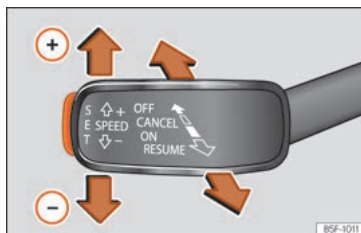

Fig. 54 On the left of the steering column: third lever to operate the CCS.
- Switching on the CCS: move the third lever to **ON** » **Fig. 54**. The system switches on but it does not control the speed as no speed has been programmed.
- Activating the CCS: press the button **SET** » **Fig. 54**. It memorises and maintains the current speed.
- Temporarily switching off the CCS: move the lever to **CANCEL** >>> Fig. 54 and release it or press the brake pedal. The cruise control system is switched off temporarily.
- Reactivating the CCS: move the lever to **RESUME** >>> Fig. 54 and release it. The memorised speed is saved and controlled again.
- Disconnect the CCS: turn the key to position **OFF** >>> Fig. 54. The system is disconnected and the memorised speed is deleted.